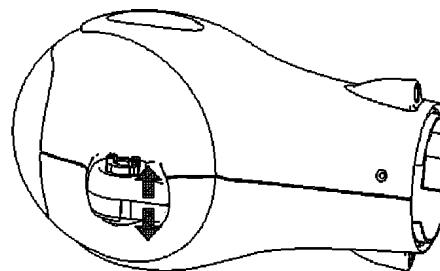

Figure 14
3. Separate Housing A & B by apply separate force at indicated position as shown in Figure 14.